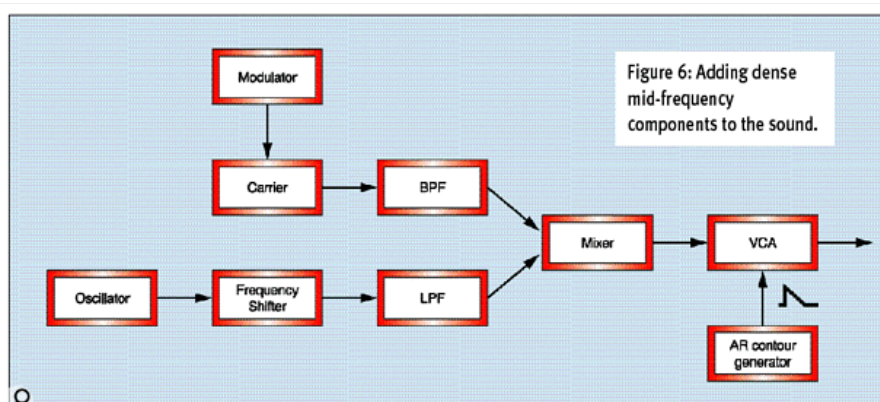

Figure 6: Adding dense mid-frequency components to the sound.
Unfortunately, these low, quasi-harmonic modes are not the only important components in the sound of the drum. Because our ears are highly attuned to the frequency range that contains human speech, we are particularly sensitive to partials in the region of a few hundred Hertz. Inevitably (because the universe hates us and wouldn't want anything to be easy), the drum generates scores of partials between 250Hz and 1kHz, so we must also synthesize these. This isn't a problem, because we can recreate the required cluster of enharmonic modes using frequency modulation (FM) synthesis. We simply add to Figure 5 two oscillators — one modulating the other — plus a band-pass filter (see Figure 6).